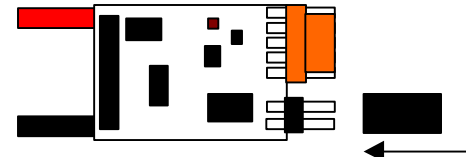

Fig 2: Reverse Rotation jumper installation
2. Install the jumper provided with the Dragon-55 on the black 2-pin connector extending from the motor end of the control. See Figure 2.